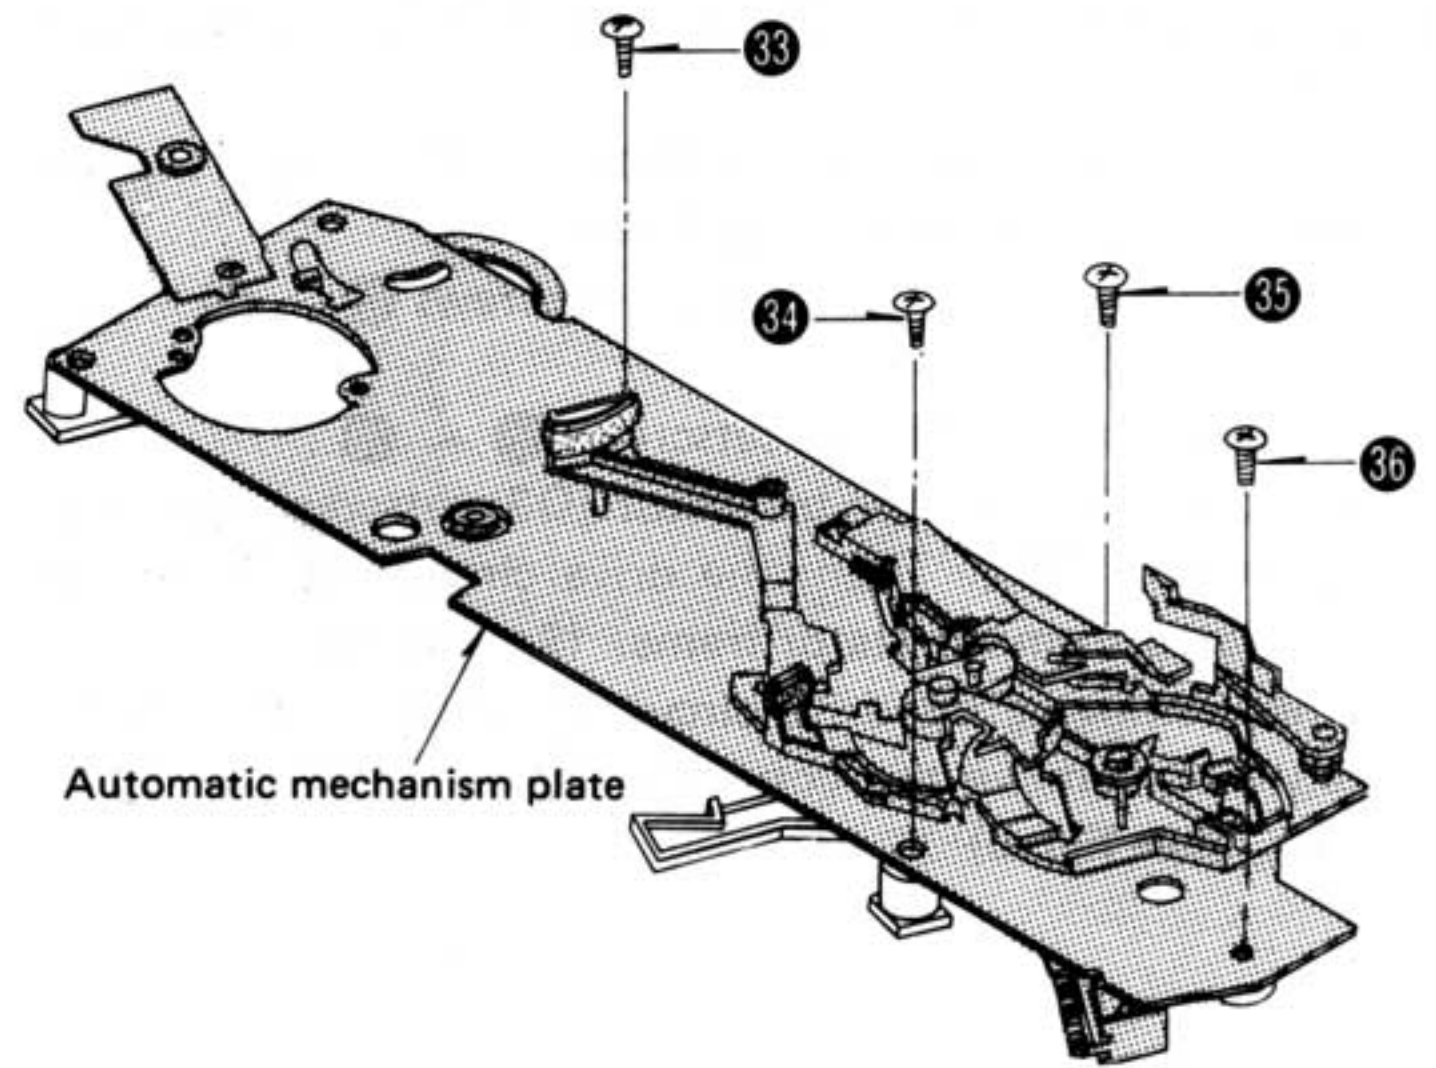

Fig. 8
4. Remove the mechanism plate setscrews ③③ ~ ③⑥. Then, the mechanism plate can be removed. (See Fig. 8)